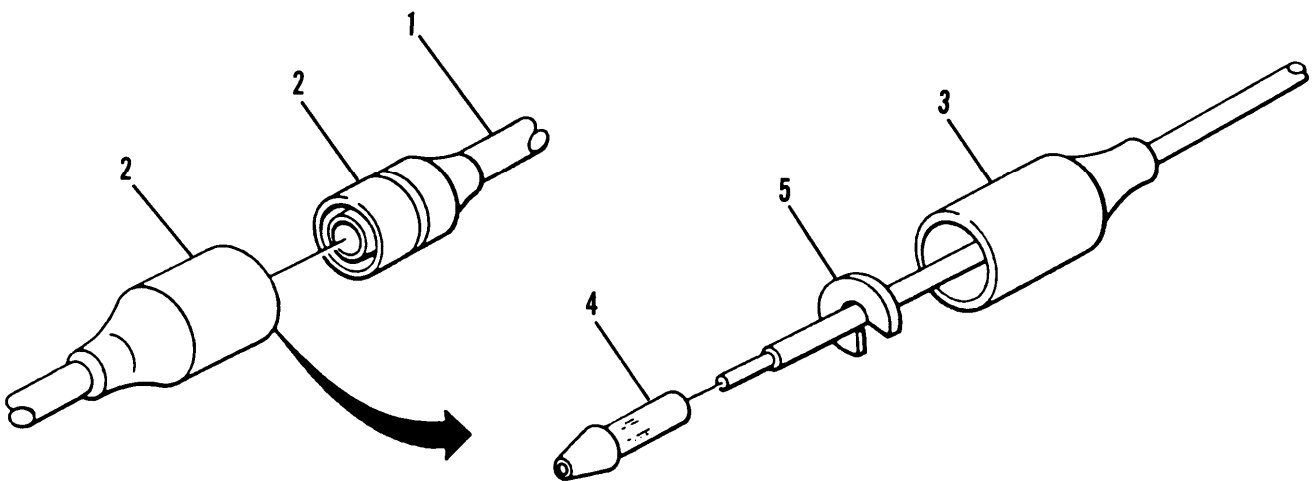

Figure 4-15. Male Connector Repair
- (1) Separate halves of connector (2, fig. 4-15).
- (2) Slide shell (3) up wire lead (1) until clear of contact (4) and retaining washer (5).
- (3) Remove and discard retaining washer (5).
- (4) Slide shell (3) off over contact (4).